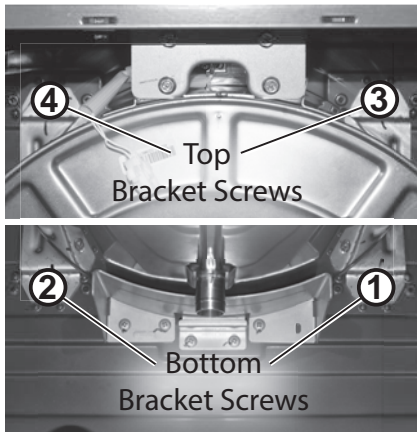

Figure 141 - Locate and remove heat exchanger bracket screws
- 40** Locate the two vertical (2) brackets and four (4) screws securing the heat exchanger to the backside of the water heater cabinet as shown in Figure 141.